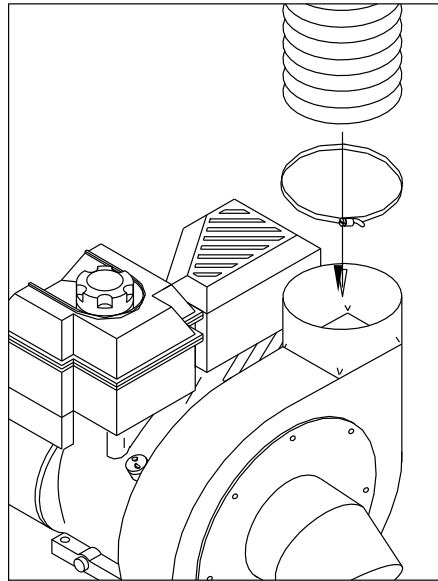

Fig. 11
10. Slip free end of 6" x 60" hose over neck on turbine housing and secure with 6" band clamp. (Fig. 11)